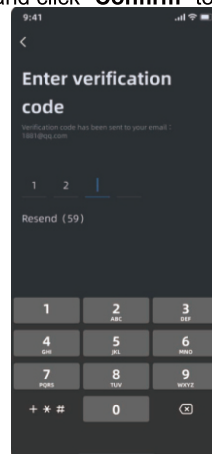

Figure 5
5) Figure 5: Enter the received verification code. If it is correct, the binding is successful. You can log in using your email/phone number next time.